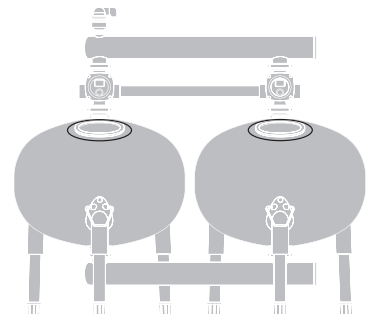

FIGURE 3 - Filter tank positioning
- Orient the AGF filter tanks on the foundation by facing tank access ports in the same direction. See Figure 3.